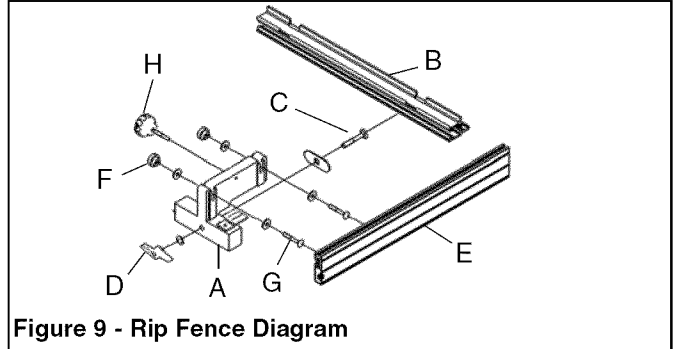

Figure 9 - Rip Fence Diagram
Refer to Figures 9 and 10.
- To assemble the rip fence, take the fence carrier (A) and attach it to the guide rail (B) using the M8x50 carriage bolt (C) and the wing nut (D).
- Fit the fence (E) to the fence carrier with the two knurled nuts (F) and M6x40 carriage bolts (G) and use the fence adjusting knob (H) for adjustment and to lock in position (see Figure 9).